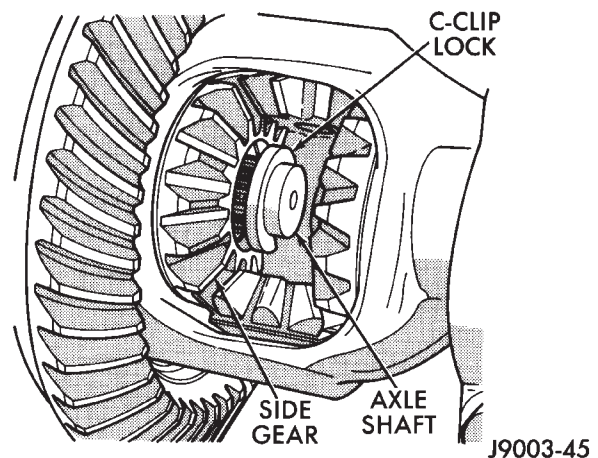

Fig. 10 Axle Shaft C-Clip Lock
- (7) Push axle shaft inward and remove axle shaft C-clip lock from the axle shaft (Fig. 10).